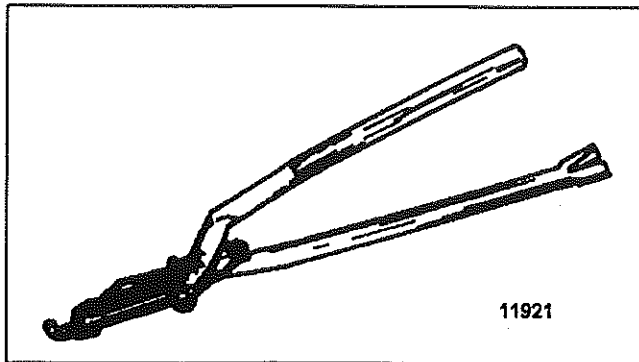

FIGURE 2 - RADIATOR TUBE
3. After the tube is free, place the upper jaw of the installation tool (Figure 2) around the round portion of the tube just below the flattened portion.